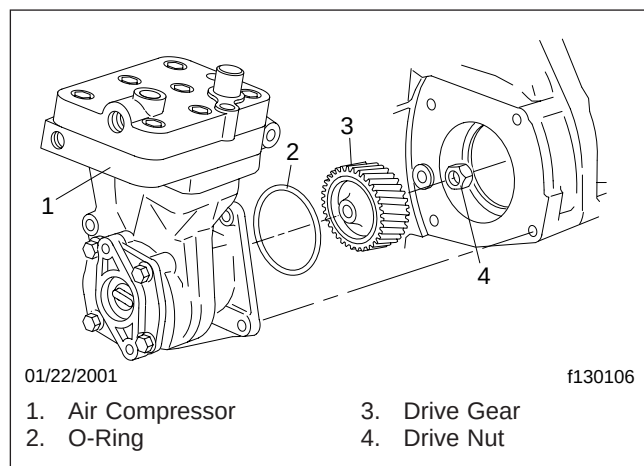

Fig. 5, Air Compressor Drive Gear Installation
1. Install an SPX Kent-Moore locking device (J 46177) on the air compressor where the power steering pump connects to the air compressor. Tighten the capscrews until the air compressor drive is locked. This device locks the driveshaft to allow removal of the drive nut. See Fig. 5.
4. Install a new O-ring on the air compressor housing. Install the drive gear. Tighten the drive nut 214 lbf·ft (290 N·m). See Fig. 5.